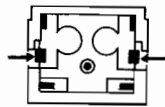

Fig. 10
2. Push the claw of the button from the back of front panel in the direction of the arrow as in Fig. 10 to shift it out toward the front panel.